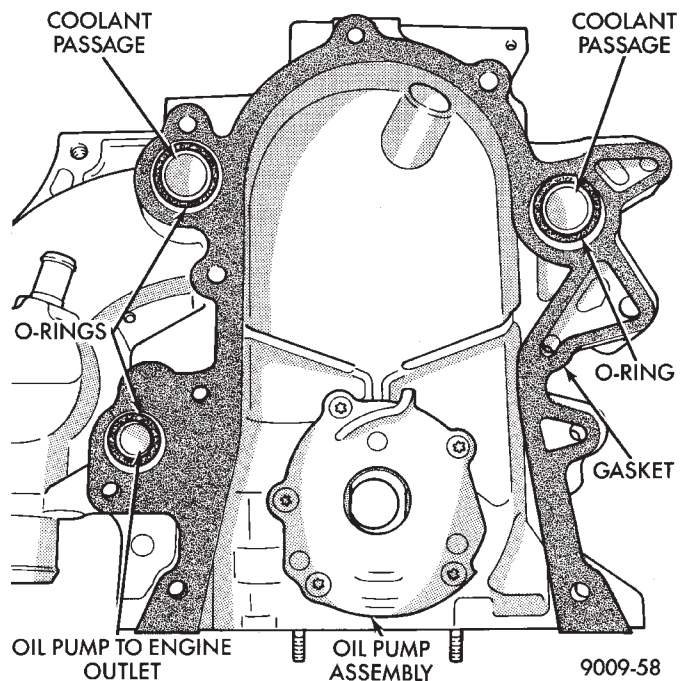
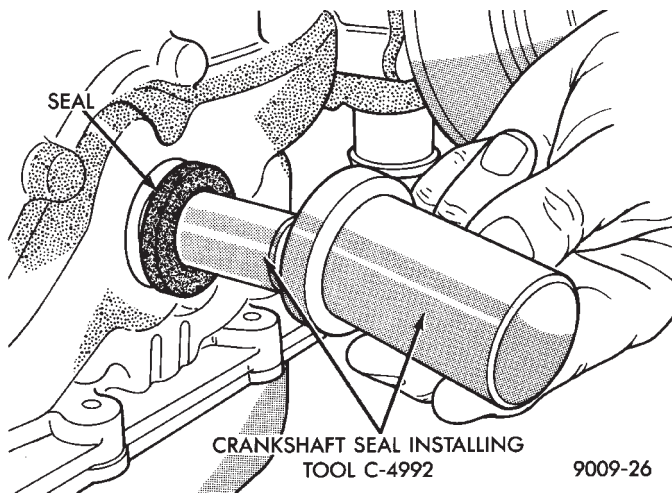
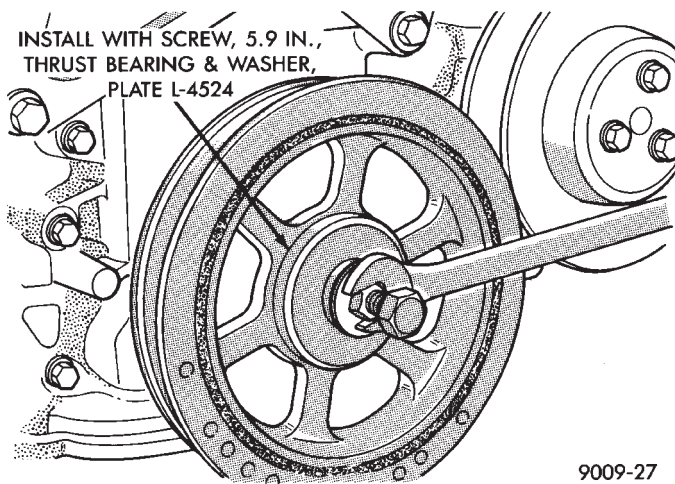

Fig. 6 Timing Chain Case Cover Gaskets and O-Rings
Fig. 7 Install Crankshaft Oil Seal
Fig. 8 Installing Crankshaft Pulley
- (1) Be sure mating surfaces of chain case cover and cylinder block are clean and free from burrs. Crankshaft oil seal must be removed to insure correct oil pump engagement.
- (2) Use a new cover gasket, O-rings. (Fig. 6).
- (3) Rotate crankshaft so that the oil pump drive flats are vertical.
- (4) Position oil pump inner rotor so the mating flats are in the same position as the crankshaft drive flats (Fig. 6).
- (5) Install cover onto crankshaft. Make sure the oil pump is engaged on the crankshaft correctly or severe damage may result.
- (6) Install chain case cover screws and torque to 27 N•m (20 ft. lbs.).
- (7) Install crankshaft oil seal (Fig. 7).
- (8) Install crankshaft pulley (Fig. 8).
- (1) Install new seal by using Tool C-4992 (Fig. 7).
- (2) Place seal into opening with seal spring towards the inside of engine. Install seal until flush with cover.
- (3) Install crankshaft pulley using plate L-4524. Thrust Bearing/washer and 5.9 inch screw (Fig. 8).